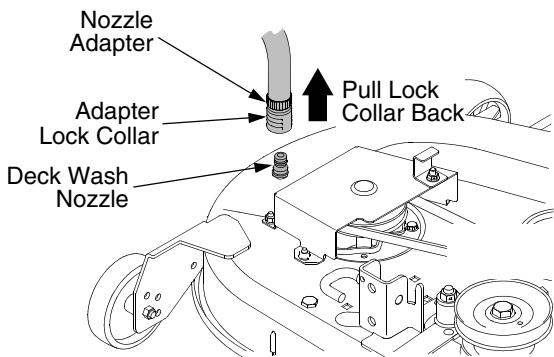

Figure 54
- Carefully guide the tractor implement lift links (left and right) into the rear deck bracket slots (left and right) as the tractor implement lift handle is lowered to its lowest setting (Refer to Figure 54).
- Pull back the lock collar of the nozzle adapter and push the adapter onto the deck wash nozzle at the left end of the mower deck. Release the lock collar to lock the adapter on the nozzle. See Figure 54.